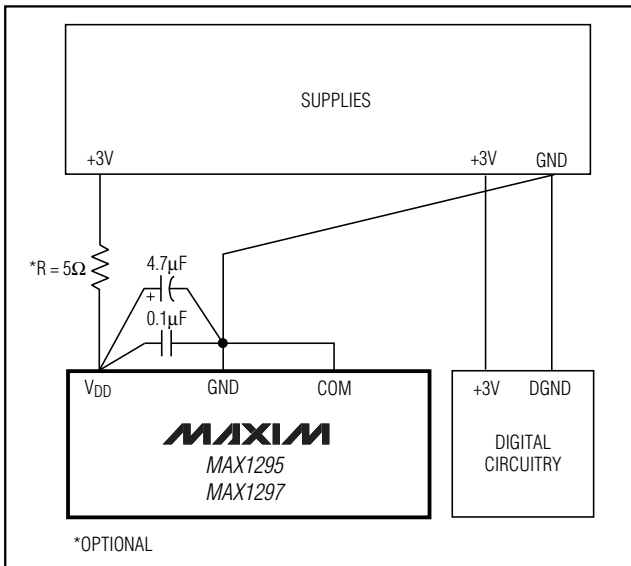

Figure 11. Power-Supply and Grounding Connections
For best performance, use printed circuit (PC) boards. Wire-wrap configurations are not recommended since the layout should ensure proper separation of analog and digital traces. Do not run analog and digital lines parallel to each other, and don't lay out digital signal paths underneath the ADC package. Use separate analog and digital PC board ground sections with only one "star point" (Figure 11) connecting the two ground systems (analog and digital). For lowest noise operation, ensure the ground return to the star ground's power supply is low impedance and as short as possible. Route digital signals far away from sensitive analog and reference inputs.